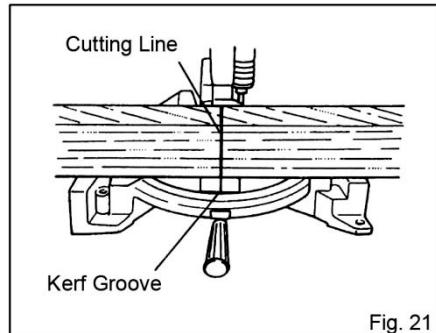

Fig. 21
- Part of the workpiece, the thickness of which equal to the thickness of the blade, will be cut off when making cutting operations with this tool. So position the cutting line on the left or right side of the kerf groove for precise cutting. (**Fig. 21**)